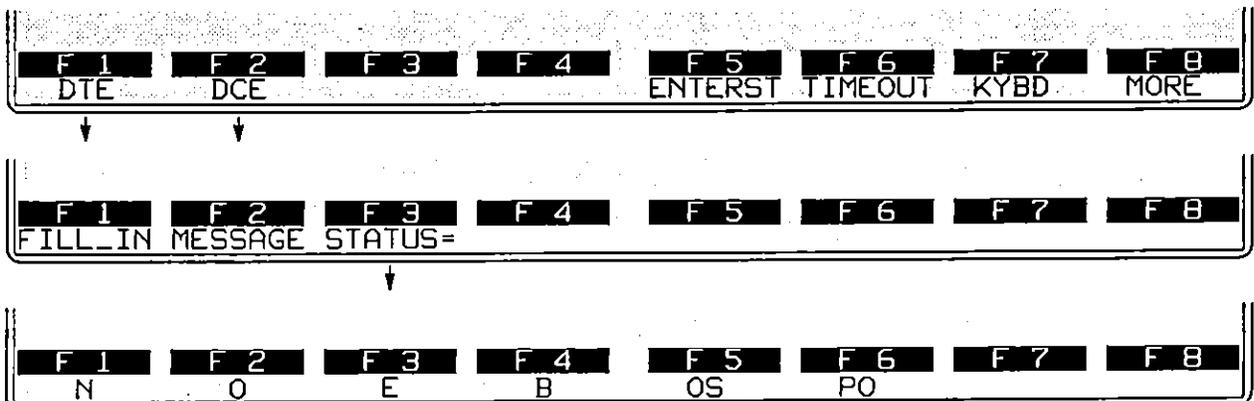

Figure 45-5 Frame types.
1. *Fill-In and Message*. The softkeys for *FILL_IN* (Fill-In Status Unit), *MESSAGE* (Message Signal Unit), and *STATUS=* (Link Status Signal Unit) are illustrated in Figure 45-5. Press a softkey to write one of these signal-unit types to the Layer 2 spreadsheet.
2. *Link Status*. *DTE* (or *DCE*) *STATUS=* is not a complete condition. Select an *LSU* type from the third softkey rack shown in Figure 45-5. The full set of abbreviations and their meanings is given in Table 45-1.